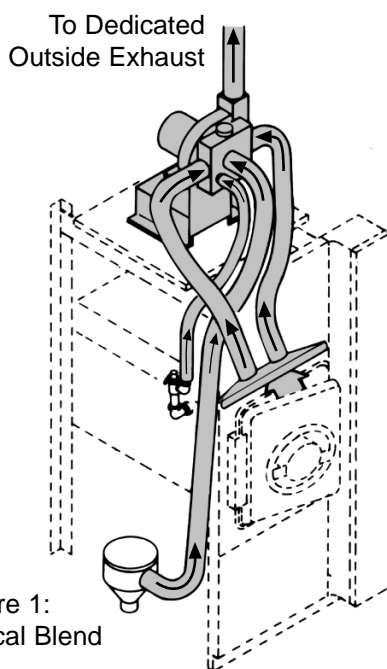

Figure 1:
- A. Typical blend EO sterilizers (see figure 1)